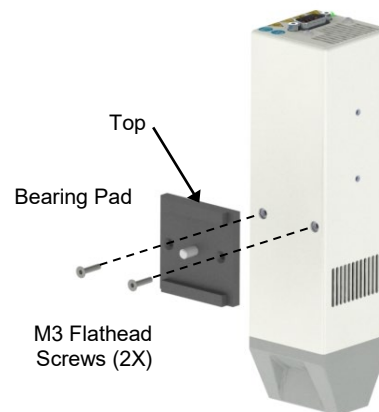

Figure 2. Attach Bearing Pad to Emitter
3. Using a 2-mm hex key, attach the bearing pad to the emitter body with the M3 flathead screws (Qty. 2). Make certain the bearing pad surface engraved with "TOP" is parallel to the emitter top. Repeat for as many emitters as will be used in the array. (Figure 2)